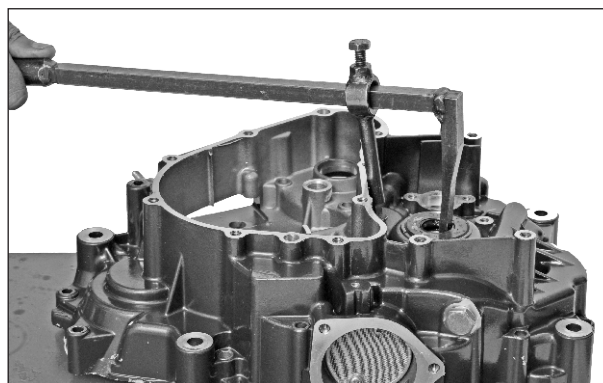

Fig. 3.159
- Using the special tool (universal oil seal remover), the oil seals can be removed. (Fig. 3.159)